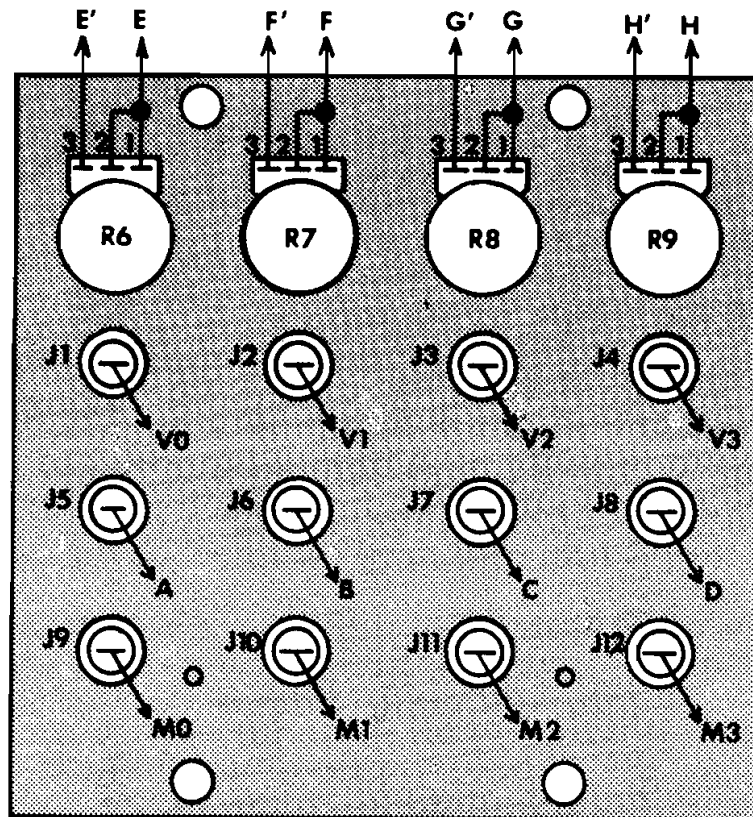

Figure 3 FRONT PANEL PARTS PLACEMENT AND WIRING
- () Place a red pin jack (J1) in the hole provided as shown in figure 3 and fasten in place with a tinnerman nut as shown in detail drawing figure 2 .
- () Mount the 500K ohm potentiometer R6 in the location shown in figure 3. Use two 3/8" nuts, one behind the front panel as a spacer and the second on the front side of the front panel to secure the potentiometer. Adjust the rear nut so that none of the threaded shaft is exposed when the front nut is tightened down, this will allow the control knob, which will be mounted in a later step, to seat as closely as possible to the front panel. Orient as shown.
REFERRING TO FIGURE 3 MAKE THE CONNECTIONS BETWEEN THE CIRCUIT BOARD AND FRONT PANEL AS FOLLOWS.